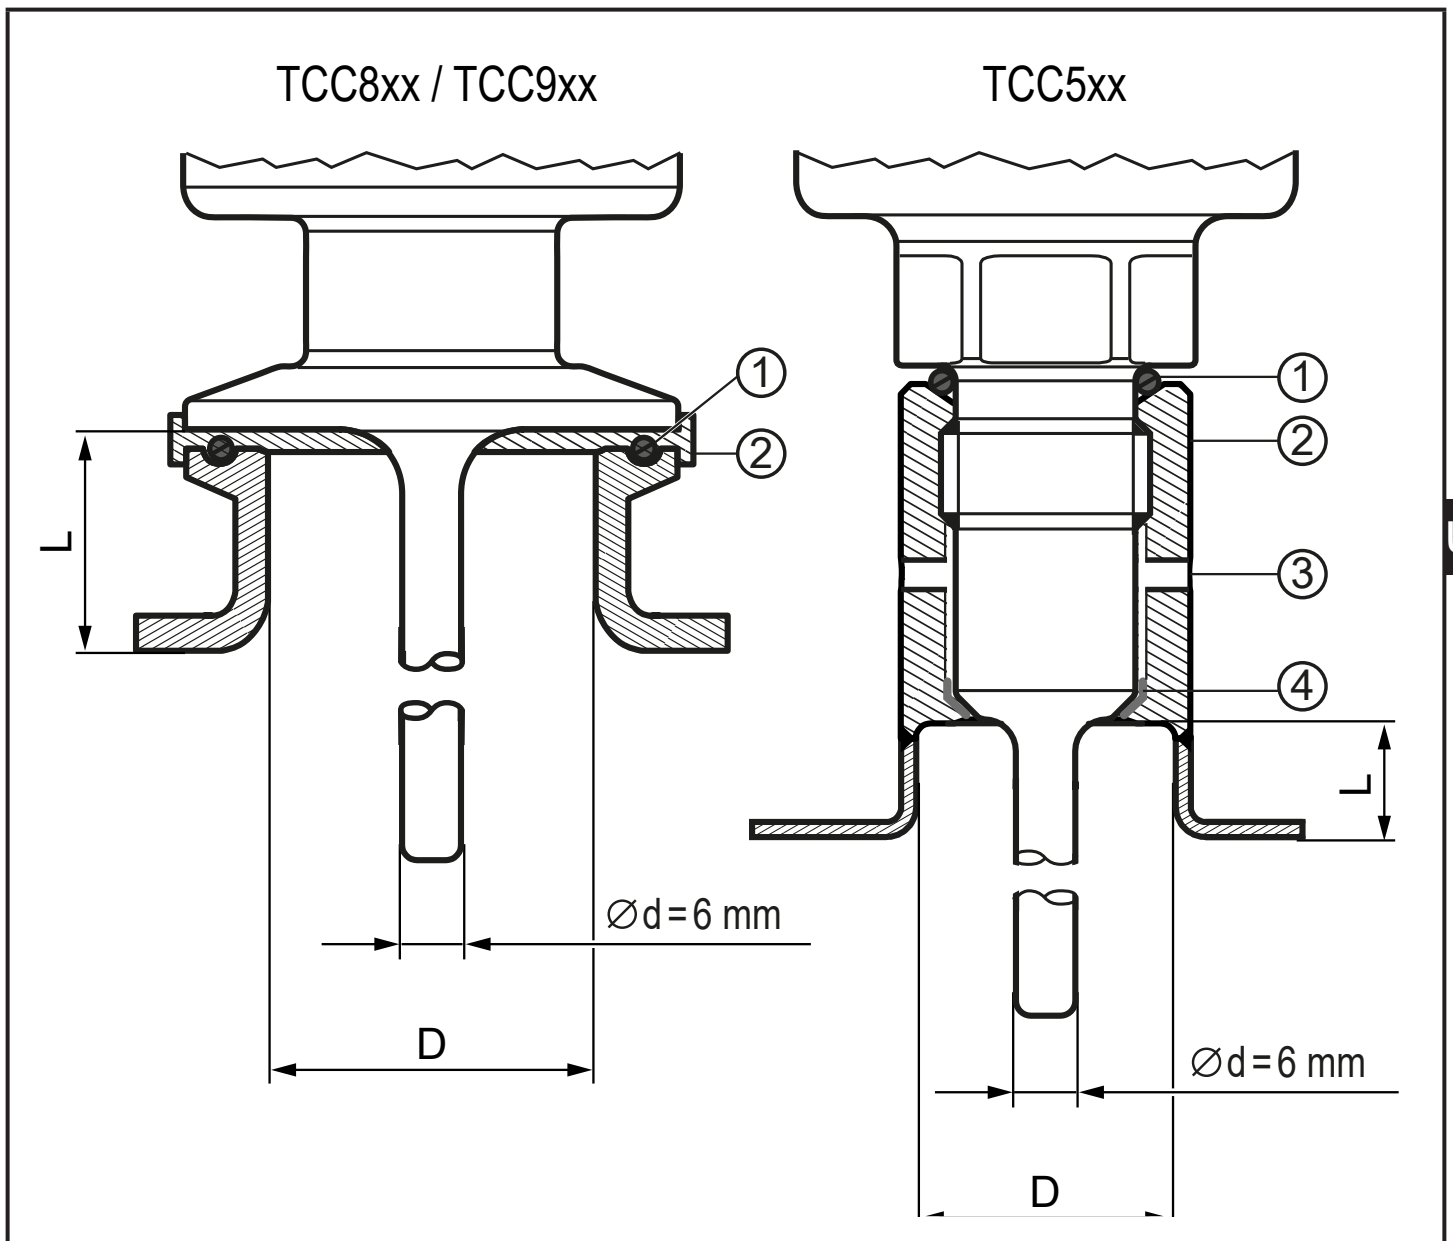

Fig. 1: mounting dimensions for use according to EHEDG
- ▶ Adhere to the dimensions shown in Fig. 1 to avoid dead space:  $L < (D - d)$ .
The sealing ring between the housing and the process connection (Fig. 1 → 6.2) can compensate for variable insertion depths and tolerances and provides protection against the ingress of media in the thread area.